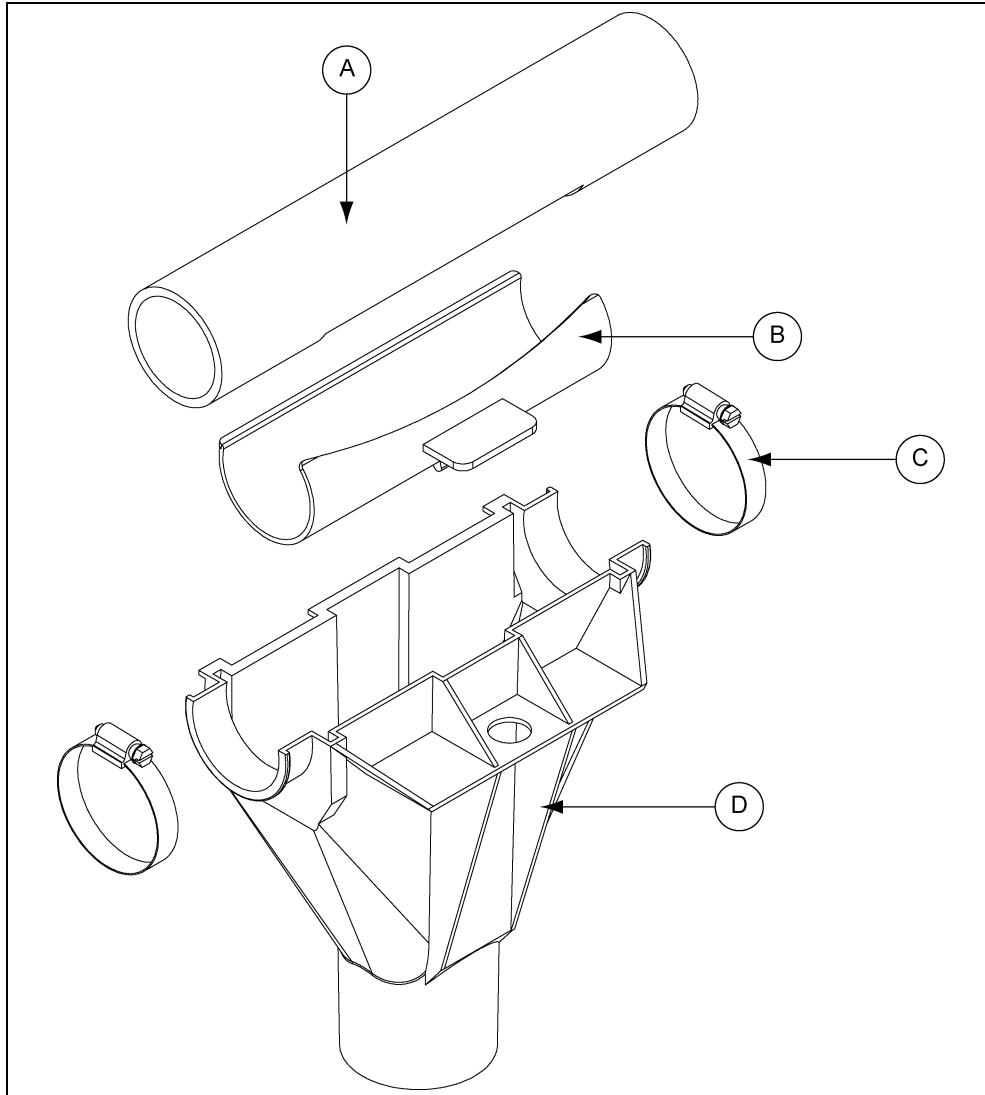

Figure 6C Kwik-Attach Drop Kit Installation for PVC and Welded Steel Tubing (APCD-109)
1. Snap the slide around the tube over the outlet hole. *(See Figure 6C.)*
2. Fasten the housing to the tube using two (2) hose clamps. Make sure the outlet hole is in the middle of the housing.